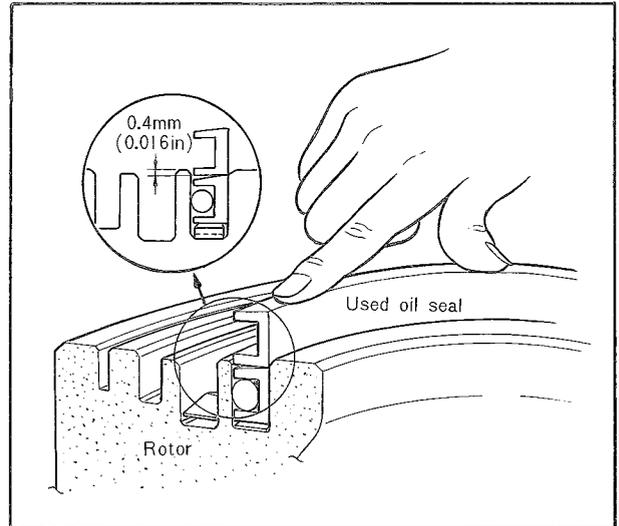

Fig. 1-53 Installing inner oil seal
5. Press the inner oil seal by using a used inner oil seal so that the lip surface of the oil seal sinks into a position approximately 0.4 mm (0.016 in) below the surface of the rotor, as shown in Fig. 1-53.